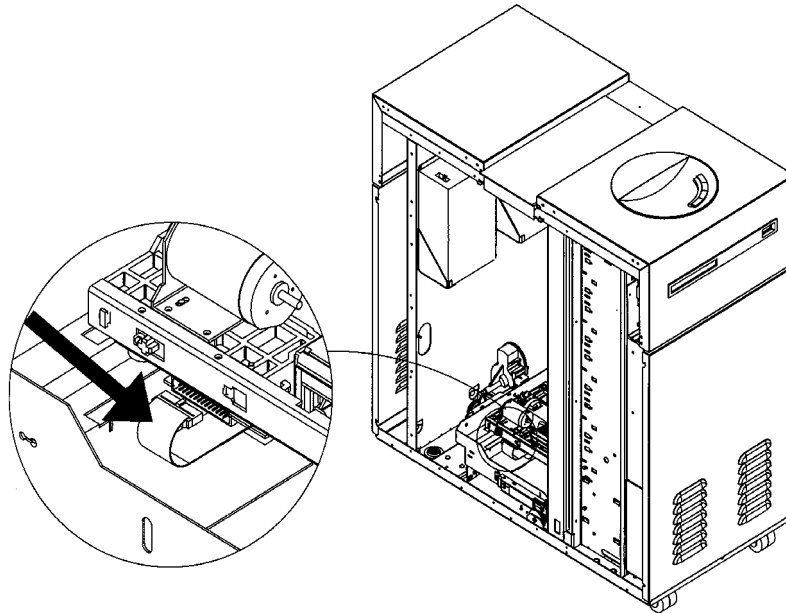

Figure 24: Picker Umbilical Cable
2. Pull the tab on the end of the picker umbilical cable to disconnect the cable from the bottom of the picker (see Figure 24).